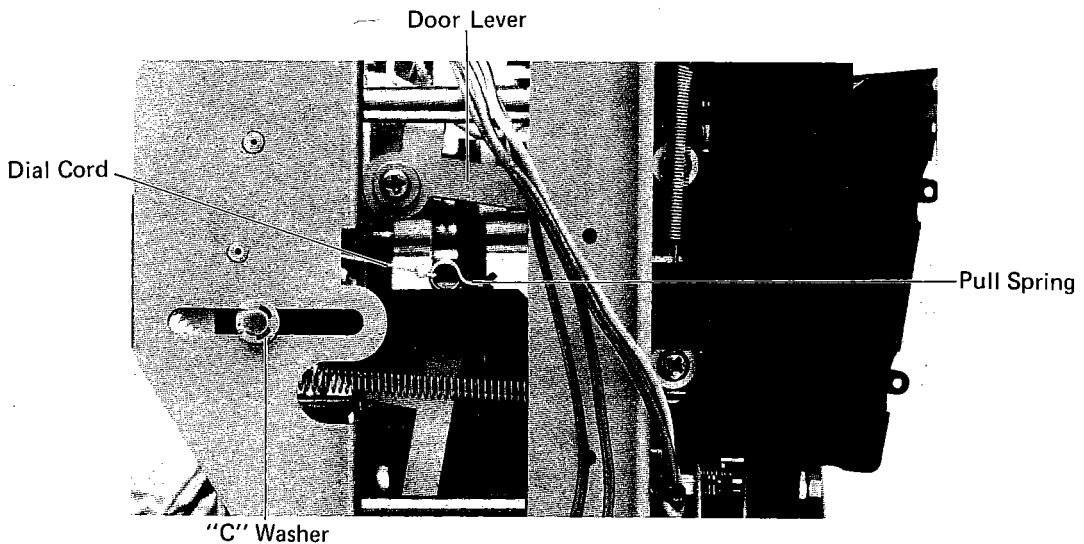

Figure 10
- (2) Remove "C" washer from the door lever as shown in Figure 10.
- (3) The sub chassis can be completely removed from the cassette deck chassis, and then remove the Sub Belt or the Main Belt.